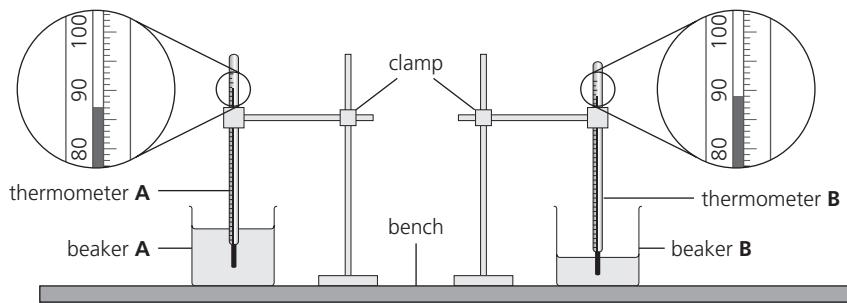

Figure 8
They are using the apparatus shown in Figure 8.
- a i 200 cm³ of hot water is poured into beaker A and the initial temperature rises to the value shown on thermometer A in Figure 8.
100 cm³ of hot water is poured into beaker B. The temperature rises to the value shown on thermometer B in Figure 8.